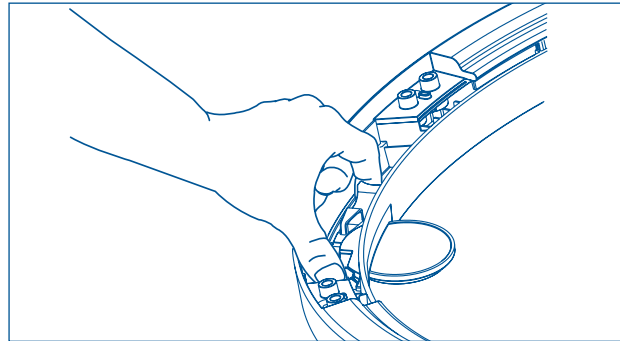

Figure 2-25.
1. Grasp the indicator on the latch side between finger and thumb and rock it upward, pivoting away from the center of the glass. (See Figure 2-25)